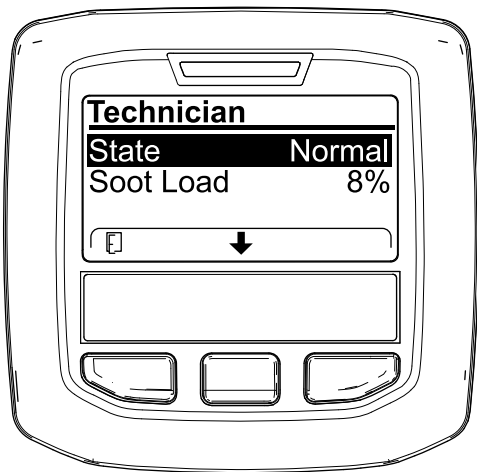

Figure 36
- Use the DPF operation table to understand the current state of DPF operation (Figure 36).